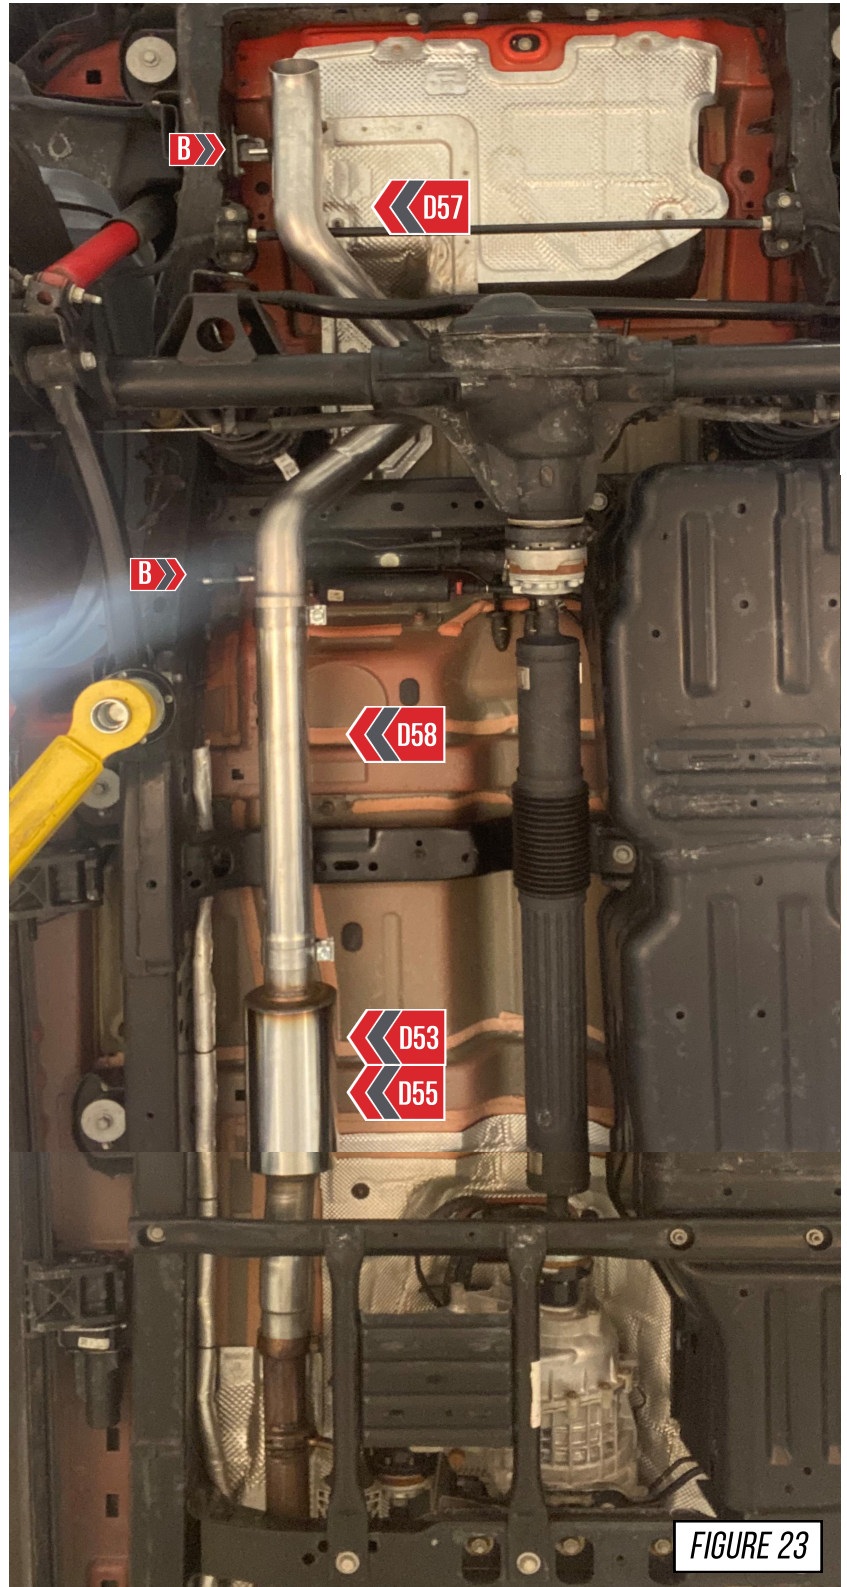

FIGURE 23
With the correct fitment, install the supplied hanger clamps onto the 2 locations marked by (B), as shown in **Figure 23**.